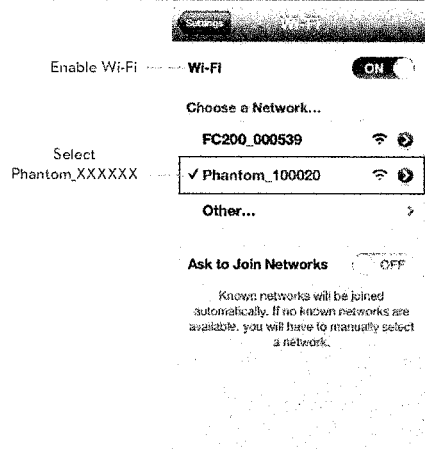

Figure 46
3. (Figure46) Enable the Wi-Fi on your mobile device; wait for about 30 seconds, and then select "Phantom_XXXXXX" from the Wi-Fi network list.